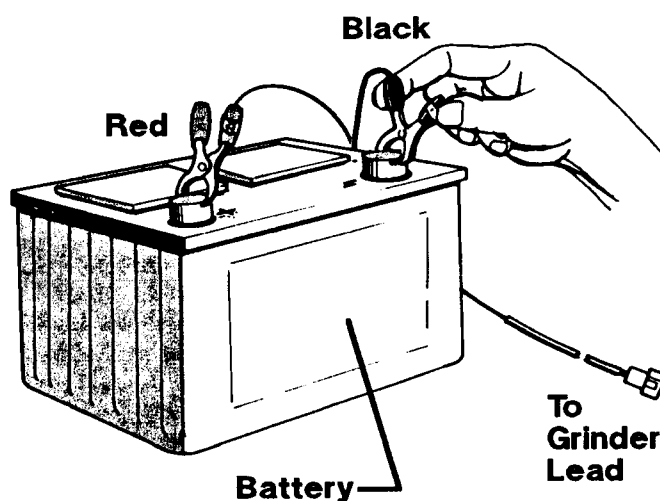

FIG 2-2
3. The LTADS sharpener can also be powered directly by a 12 volt DC storage battery. Use the provided socketed pigtail with the clips as before, but attach the clips to the terminals of a car or truck battery (See **Figure 2-2**). Plug the grinder lead into the pigtail socket. Check the motor shaft rotation. Rotation of the shaft should be counter-clockwise when viewed from the end of the motor shaft. If direction is wrong, reverse the two clips on the battery terminals.